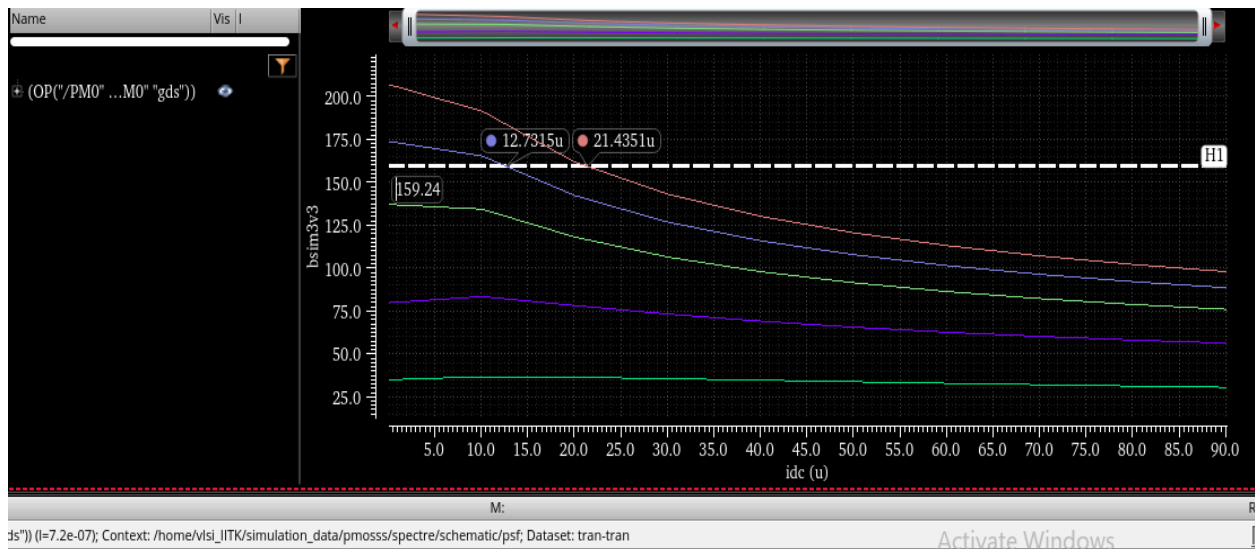

Fig13: gm/gds vs Id for different lengths
- Now after this I sweep the length from $L=180$ nm to $L=900$ nm and plot the g_m/g_{ds} vs I_d graph for different lengths as in figure 13. Then check the length at which the g_m/g_{ds} value line is cutting it. So from the graph I checked it length coming out to be 720nm.
- The gm/gds line is cutting at $L=720$ nm and 900nm, I took 720nm.(fig 13)